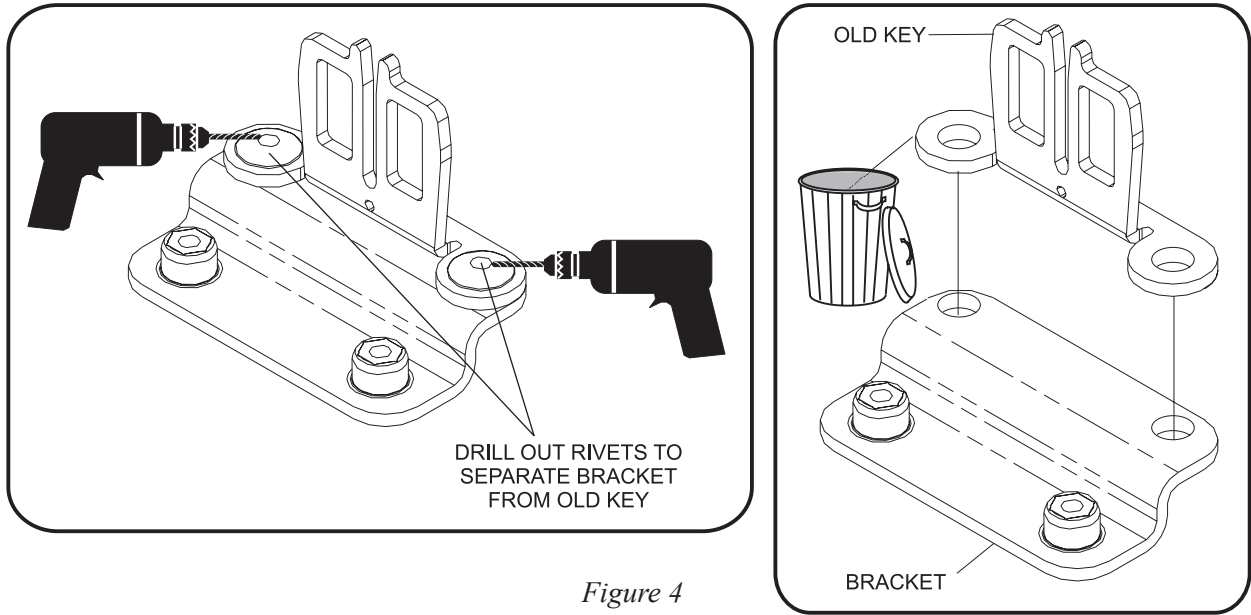

Figure 4
2. Drill rivets out and discard old key. Refer to *Figure 4*.